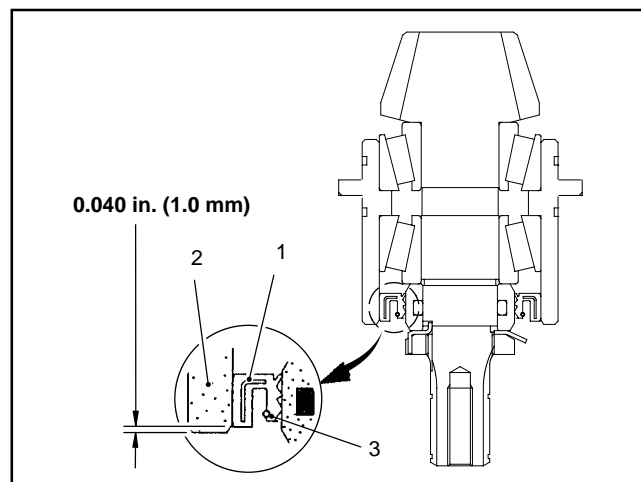

Figure 33
3. Coat a new oil seal with grease and install as shown (Fig. 33). The seal should be installed with the garter spring towards the hydraulic motor location.